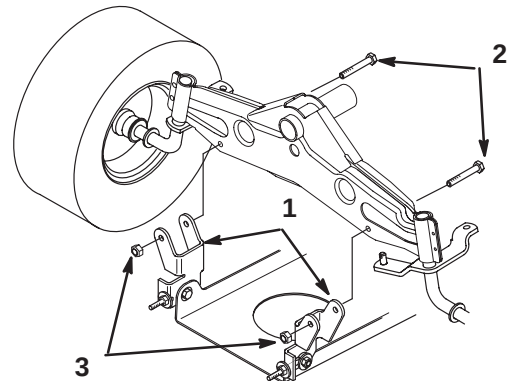

Figure 18
6. Remove the bolts and lock nuts and pull the two mower pivot mount brackets down from the front axle (Fig. 18).